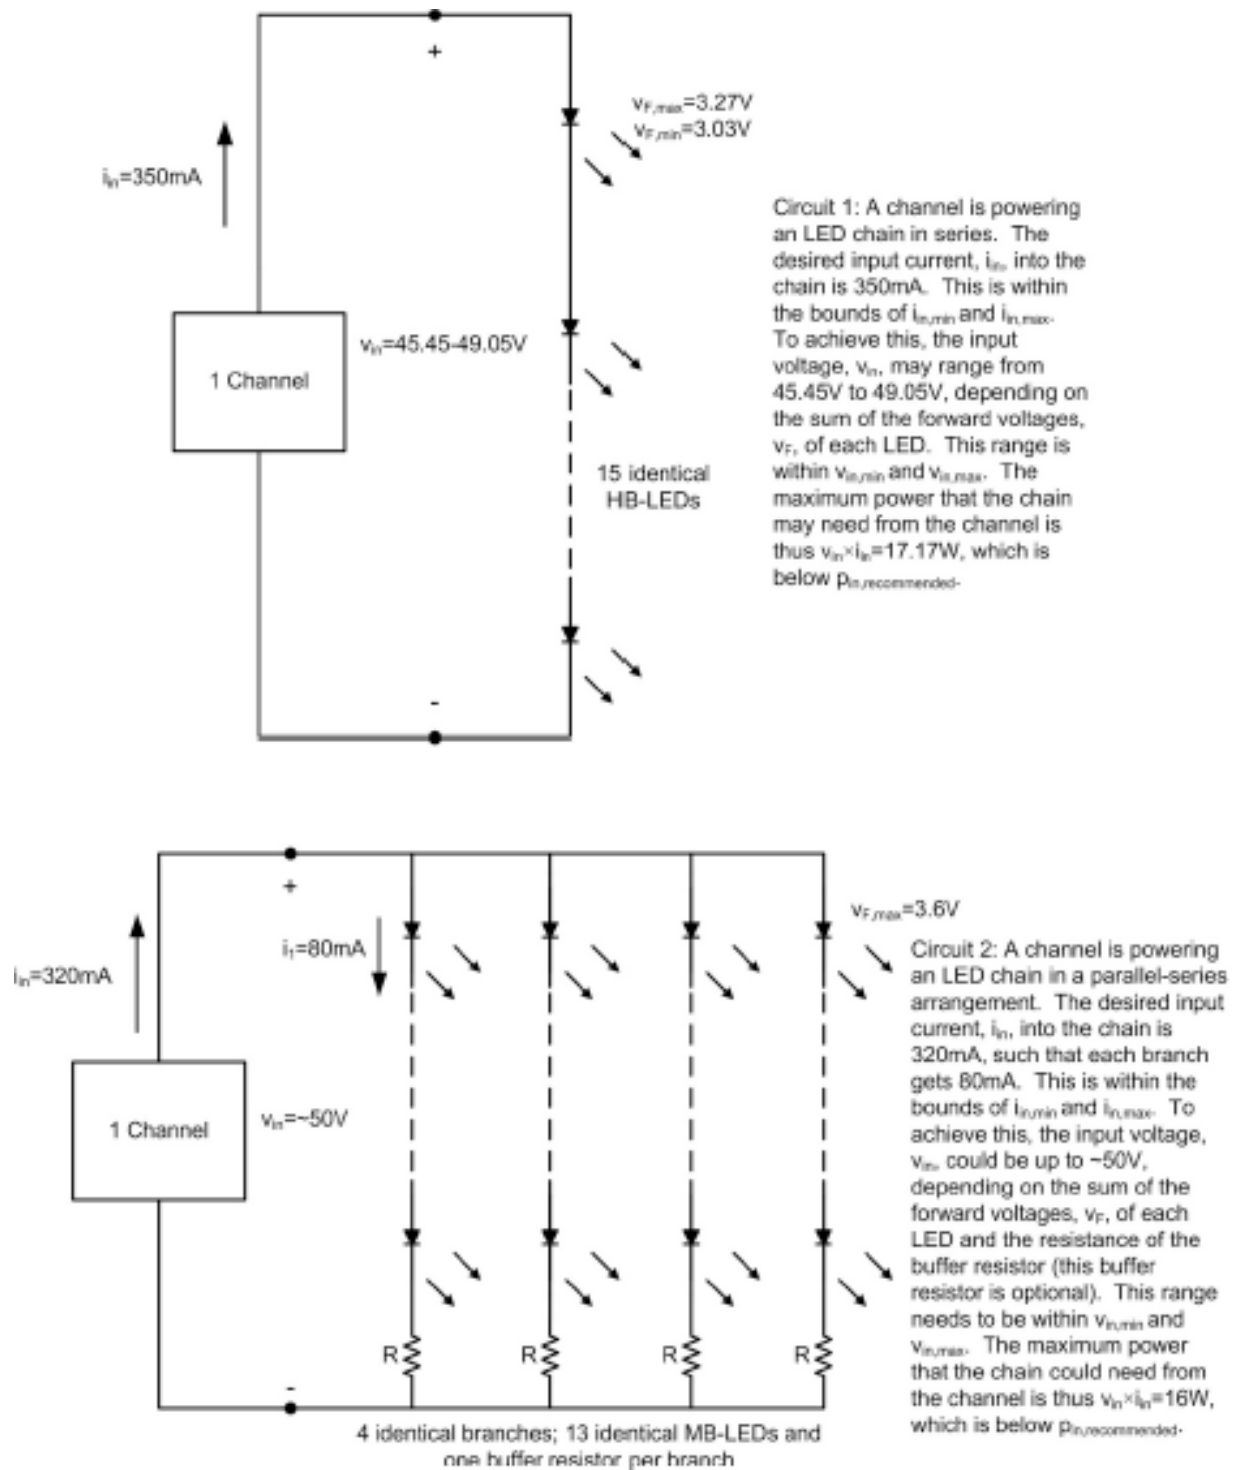
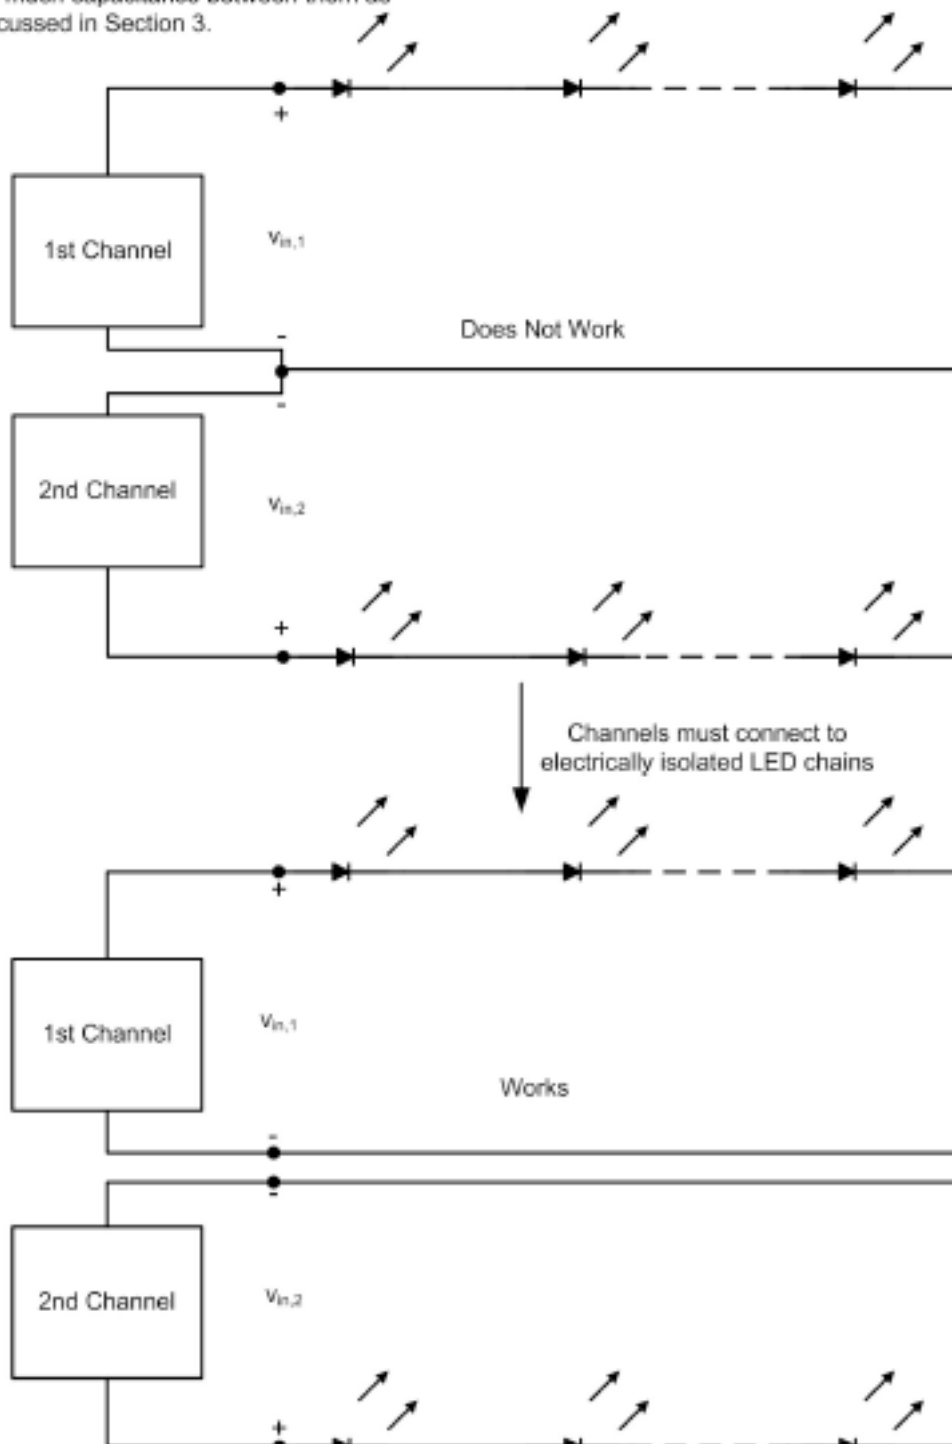

Figure 2: Two Compatible LED Chain Designs
Figure 3: Example of How to Modify an Incompatible LED Chain
On the following pages are examples of compatible and incompatible LED chain designs. Figure 2 shows two LED chain examples that meet the electrical design parameters described in Table 1. Circuit 1 utilizes typical high-brightness LEDs and Circuit 2 utilizes typical mid-brightness LEDs. Circuit 3 in Figure 3 shows a situation that is not compatible with smartengine and a solution to this situation. It should be noted that Circuit 3 could be a single channel on smartengine if each of the two strings wired in parallel require 350mA or less. These designs are provided for reference; a smartengine applications engineer can verify your LED chain design before you commit to a final layout.
- The negative (and positive) leads on each LED chain must be electrically isolated from any other circuit or component on the luminaire, including the chassis/frame, so that no additional return paths to ground are introduced. The LED chains shown in Figure 2 highlight the electrical isolation required of the negative (and positive) leads.